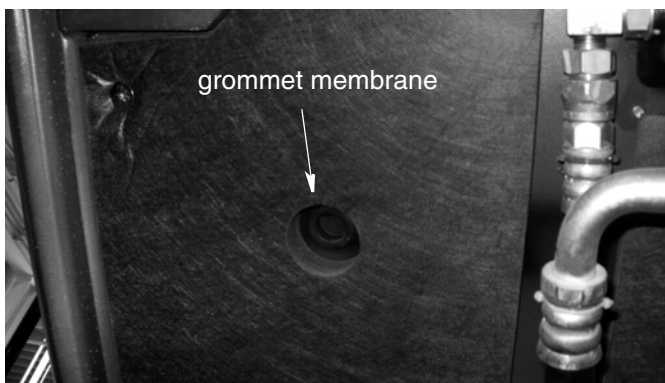

FIG. 57
6. Cut a criss-cross pattern in the grommet membrane in the cab floor (FIG. 57). Make the cut just large enough to feed the power cable through it.